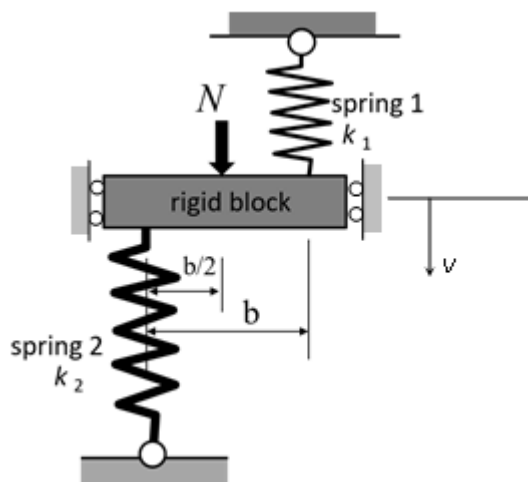

Figure 3
- (2). (a). **Figure 3** shows a spring-block assembly. The rigid block is constrained to translate only in vertical direction. Determine the vertical displacement v of the rigid block using principle of minimum potential energy. Use: $N = 5$ kN, $b = 100$ mm, $k_1 = 0.5$ kN/mm, $k_2 = 2.5$ kN/mm: